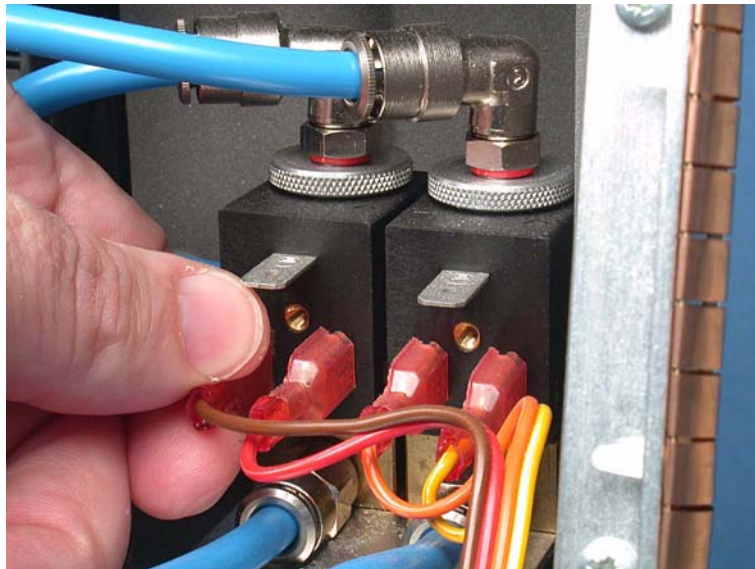

Figure 11-189. Removing the electrical connections
4. Disconnect the cables from the valves. (Figure 11-189.)